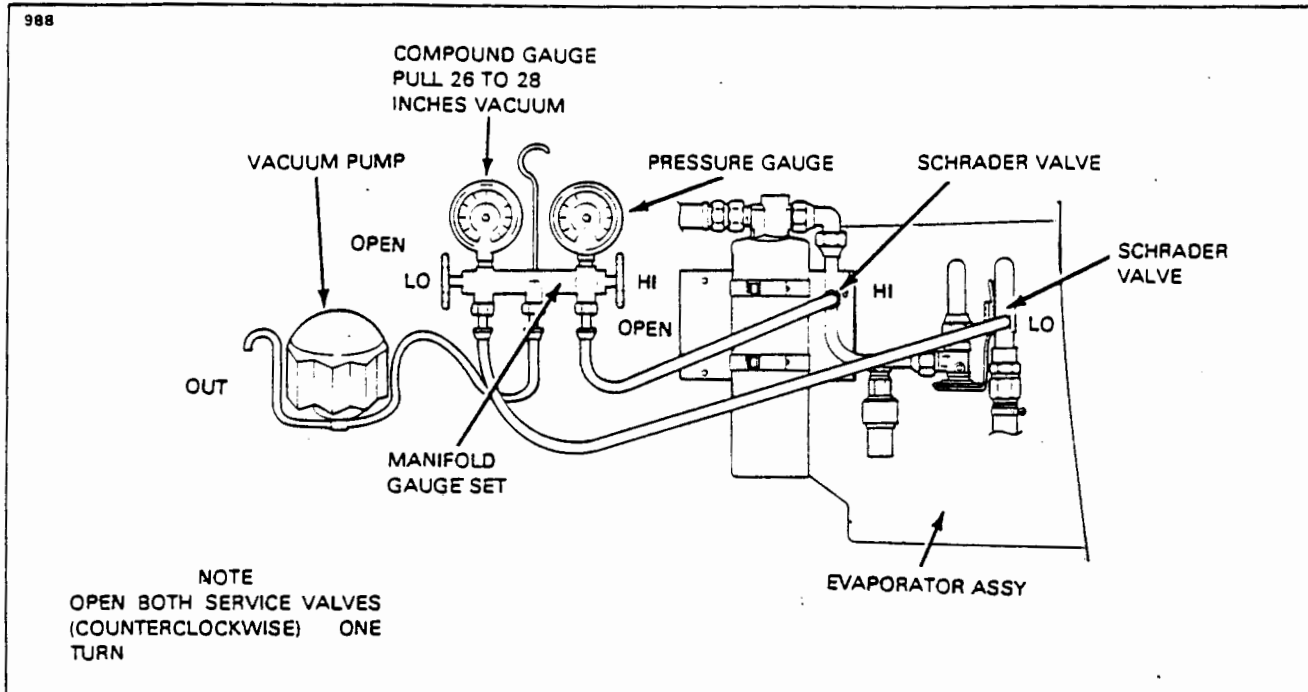

Figure 21-28. Evacuation Hookup
2. Connect the manifold gauge set to the airplane service valves. (Refer to Figure 21-28.)